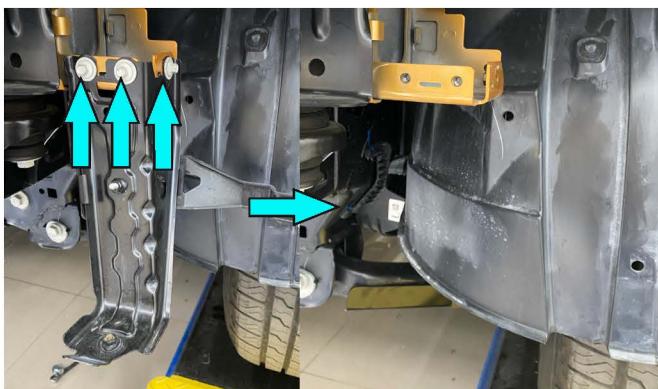

Fig.15
15. Unscrew OE bolts and remove bracket as shown in fig.15.